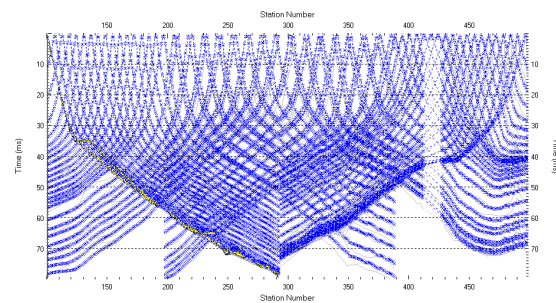

Fig. 7 : *Refractor\Shot breaks* . Grey curves are picked traveltimes, blue curves are modeled traveltimes, after 100 WET iterations, see Fig. 1.
- Select *Refractor|Shot breaks* to display traveltimes curves, see Fig. 7